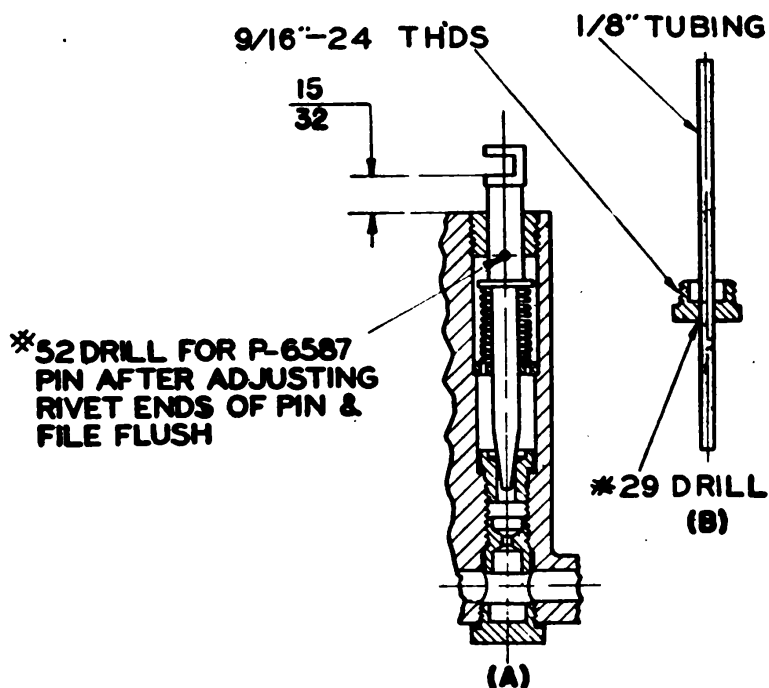

Figure 66.—Preliminary adjustment of mixture-control needle valve and holder on NA-R9B carburetor.
The mixture-control needle is screwed into the needle holder, and the needle should be adjusted in the holder so that it will have a travel of  $1\frac{7}{64}$  inch, and give a lever travel of from 75 to 80 degrees. Under no circumstances should the needle-valve travel be MORE than  $1\frac{7}{64}$  inch, but no harm is done if it is  $\frac{1}{64}$  inch LESS. Make an approximate adjustment before assembling the needle valve in the upper part of the carburetor, by setting the bottom of the holder slot  $1\frac{5}{32}$  inch from the main body parting surface with the needle valve held against its slot. You will see this position in figure 66, view (A).